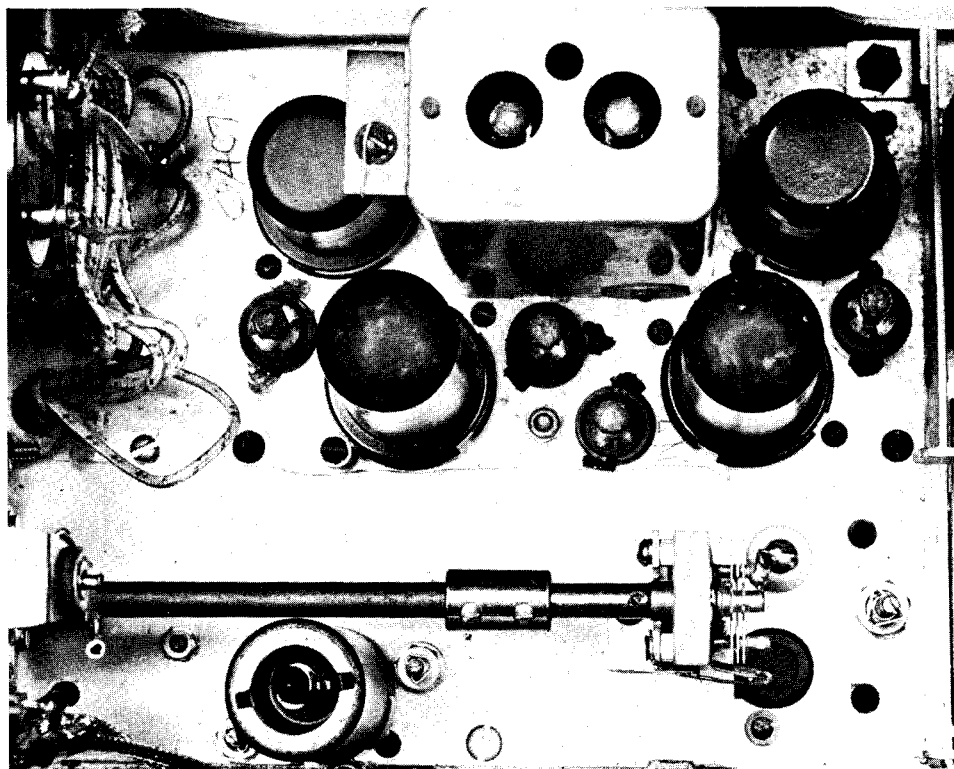

Figure 63
- C—Revised receiver oscillator circuit. The 10 μ fd. capacitor is tuned from the front panel, as shown in figures 63 and 59.
in figure 59. A soft aluminum plate is placed over the opening left by the removal of the auxiliary tuning unit, and a National type MCN dial is mounted on the panel. The shaft of the dial is about 4" from the top edge of the panel, and about $4\frac{1}{2}$ " from the left edge of the panel. The dial drives a small 10 μ fd. "APC-type" variable air capacitor that is mounted on an aluminum bracket placed about $4\frac{1}{2}$ " behind the front panel (figure 63). The capacitor, therefore, is immediately adjacent to the ceramic feed-thru insulator